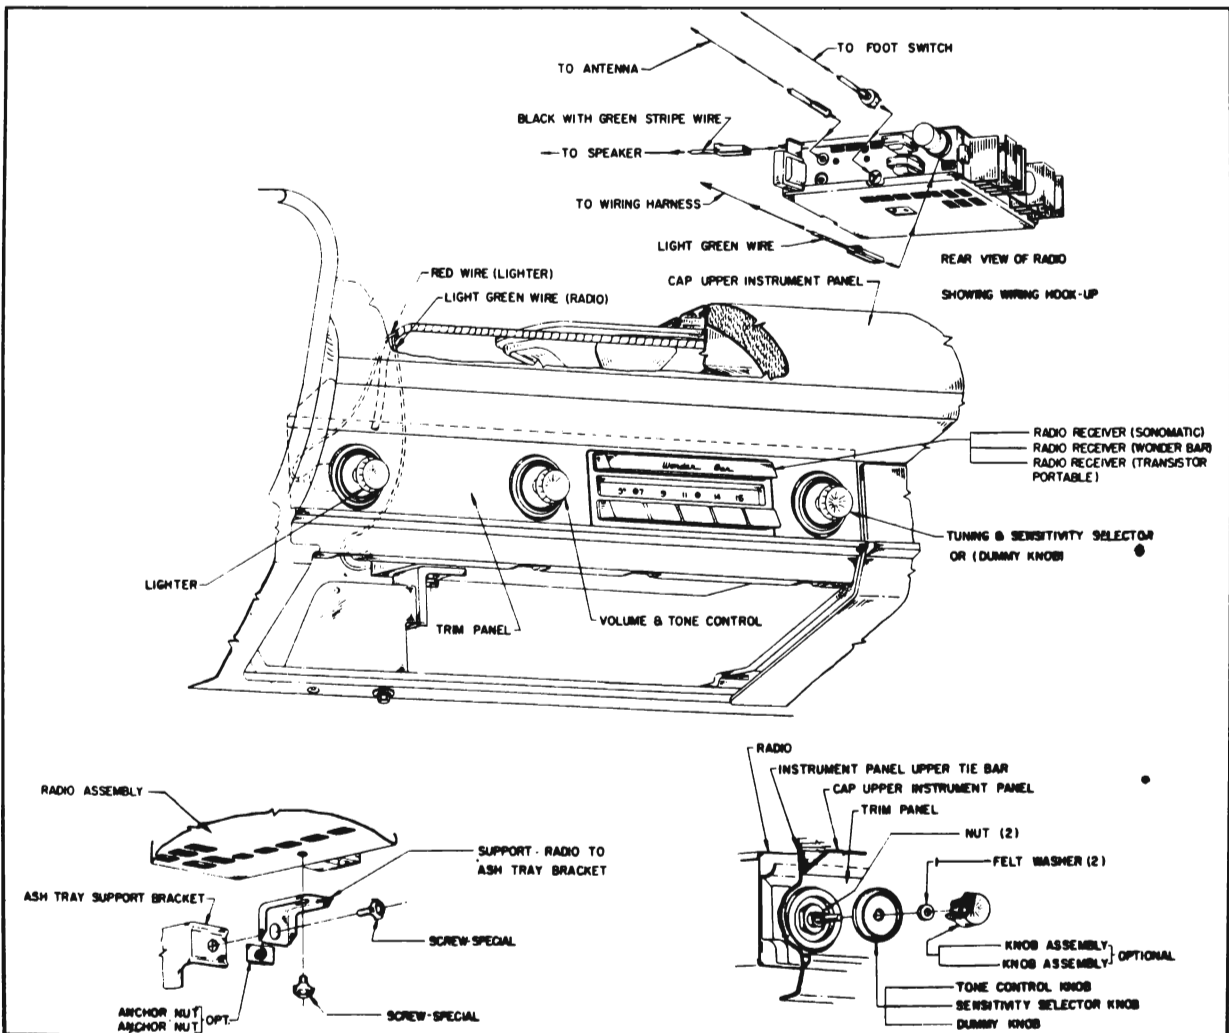

Figure 11-4—Receiver installation
3. Mount radio supporting bracket loosely to underside of radio. Align with ash tray supporting bracket and tighten. See figure 11-4.
4. Install tone control knob and volume control knob with felt washer on shaft to left of the dial. Install dummy knob (Sonomatic) or sensitivity knob (Wonderbar) and tuning control knob with felt washer on shaft to right of dial. See figure 11-4.
5. Connect the radio lead cable to the fuse block. Install proper fuse (par. 10-5, b) in fuse clips and connect radio lead cable to lead at left lower corner of receiver. See figure 11-4.